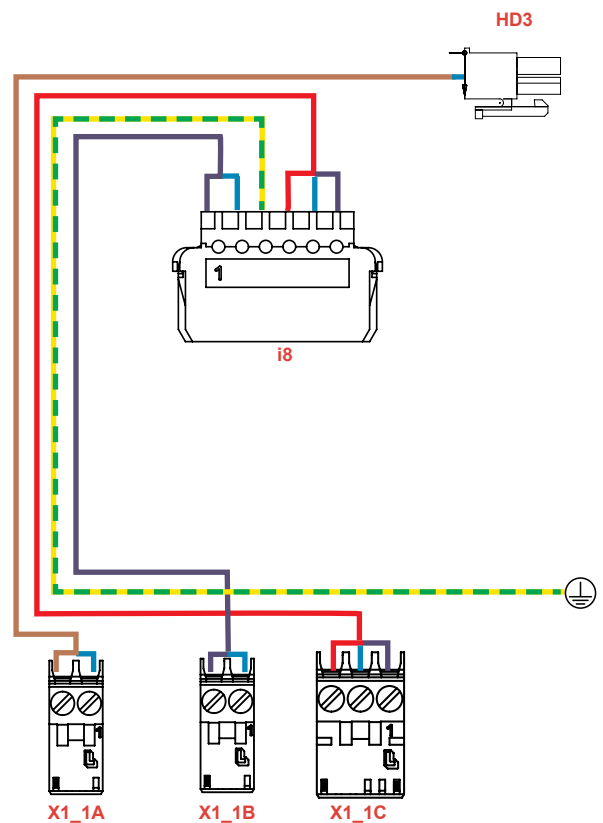

Fig. 2
2. Single Circuit Harness - Shown in Fig 2.